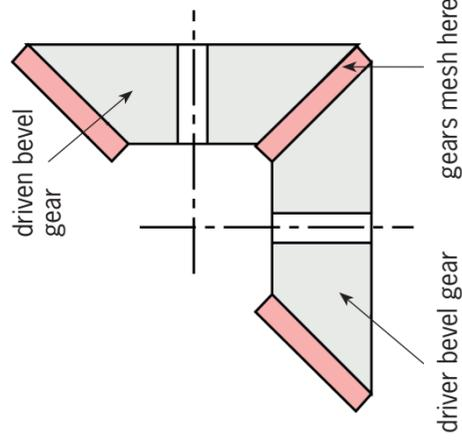

Figure 2: Drawing of two bevel gears that mesh
Look at Figure 2. It shows how you would draw two bevel gears of equal size.
1. Copy Figure 2 as a hand drawn sketch, showing all labels and centre lines.
The sketch should resemble Figure 2 and include the labels. It should be a hand-drawn sketch (drawn without using a ruler), so it does not need to be neat and accurate.